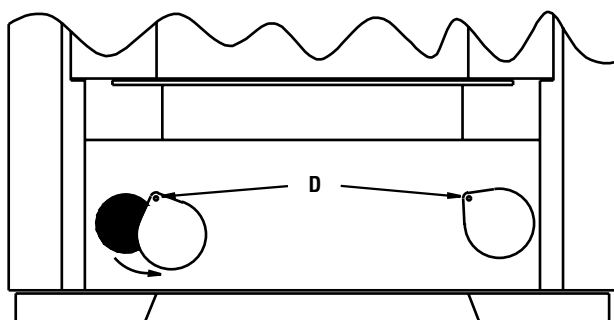

Figure 46B Front View Looking into the Ash Drawer Cavity with the Ash Drawer Removed
8. Rotate the clean-out covers off to the side to access the flue passage way cavity (see D in **Figure 46B**). Using an ash vac, clean out all ash build-up.